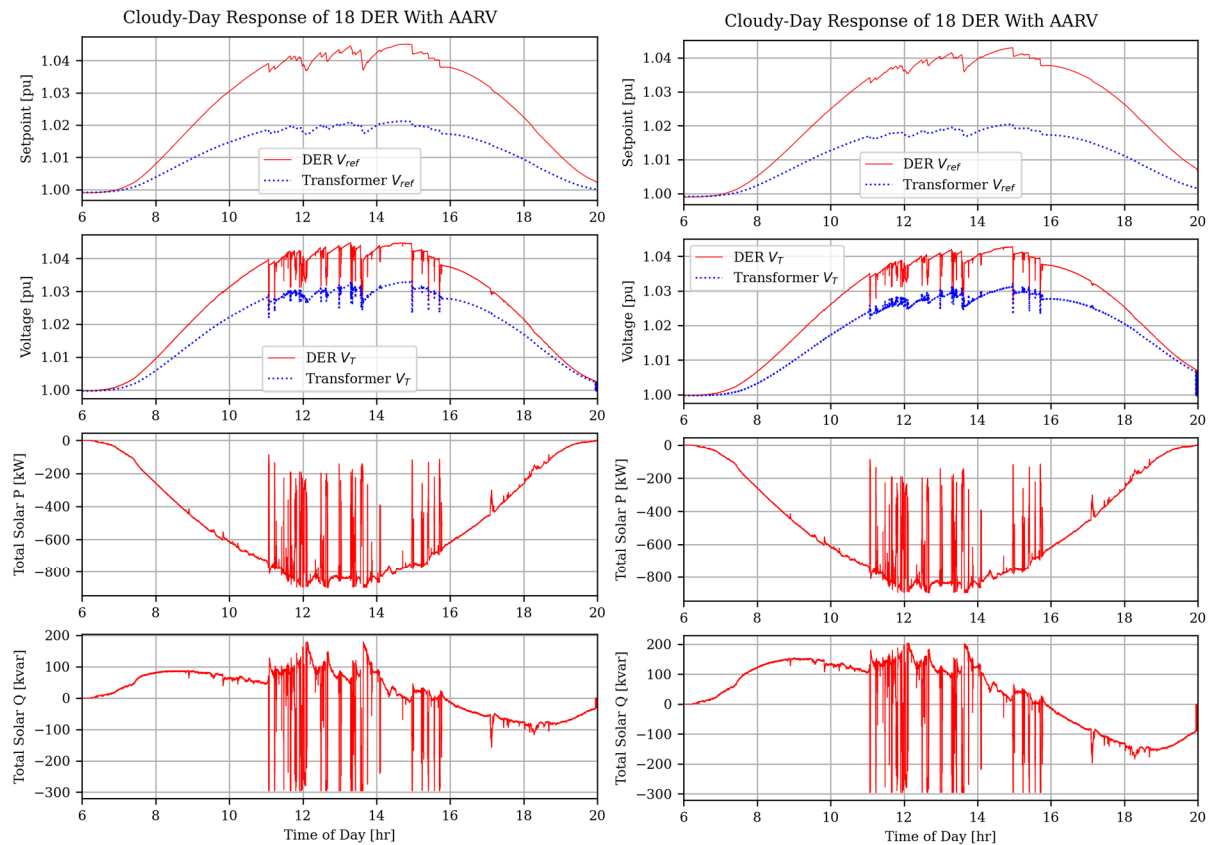

Figure 5: SCE case with  $K=110$  (left) and  $K=220$  (right)
- *Hawaii.py* creates Figure 5 of the paper, using the OpenDSS COM interface. The network model is embedded in the Python source.
Figure 5 simulates the 18-DER SCE was with 5 times and 10 times the default gain, or  $K=110$  and  $220$ , respectively. The *DeltaQ\_Factor* must be reduced from  $0.3$ , to  $0.06$  and  $0.03$ , respectively, for the simulations to converge. The OpenDSS simulations take longer than for  $K=22$ , but the result is stable. The total real energies remain at  $-6483.62$  kwh, but the total reactive energies increase to  $135.35$  and  $316.52$  kvarh.